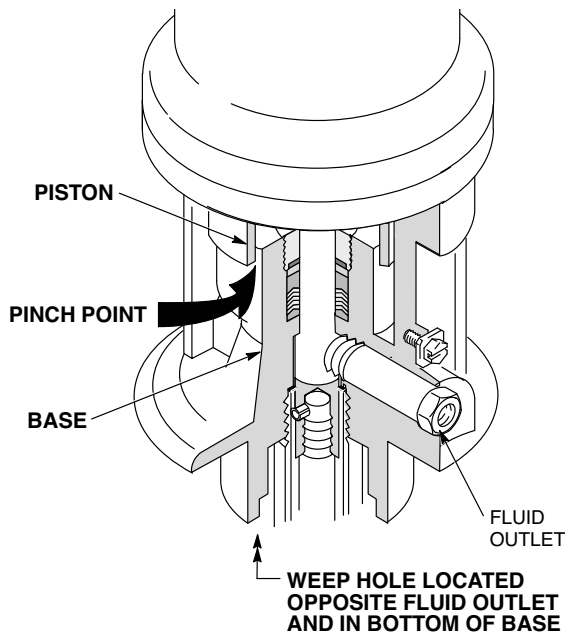

FIG. 13
3. Check to see that the air motor piston is at the top of the stroke. If it is not, **while keeping your fingers away from moving parts**, apply very low pressure air to the air inlet to move the piston up. Close the air regulator and disconnect the air supply hose. (FIG. 13)